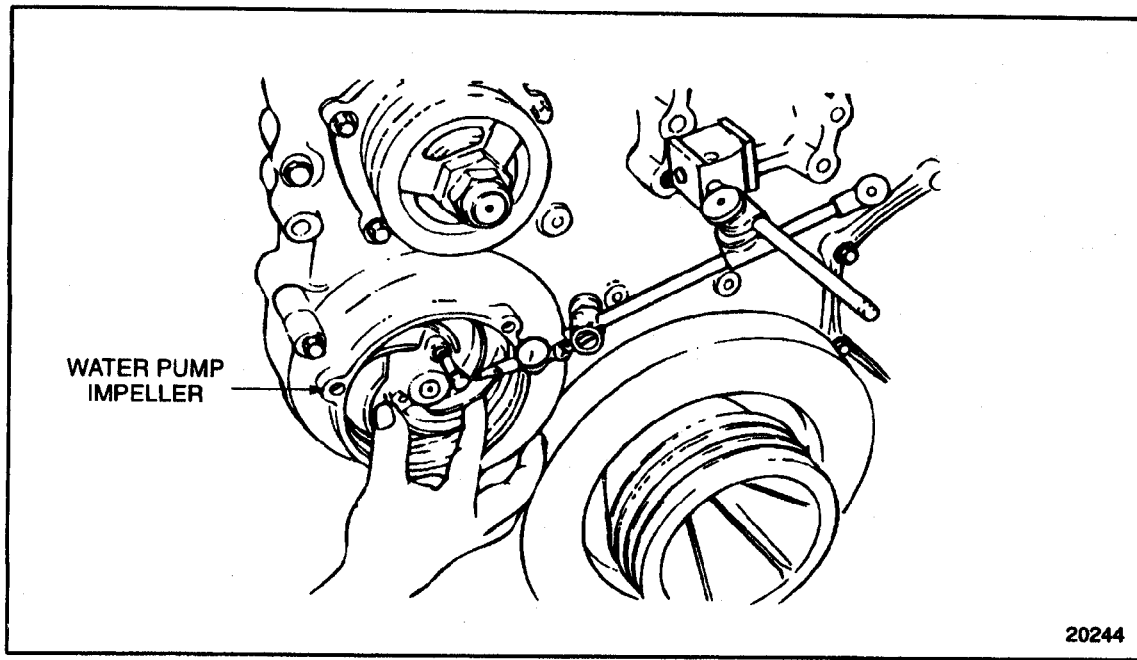

Figure 1-318 Water Pump Drive Gear-to-Bull Gear Lash Measurement
- [a] Install a 5/16-18 bolt and nut into one of the tapped holes in the water pump impeller. See Figure 1-318.
- [b] Install a magnetic dial indicator base and dial indicator. See Figure 1-318.